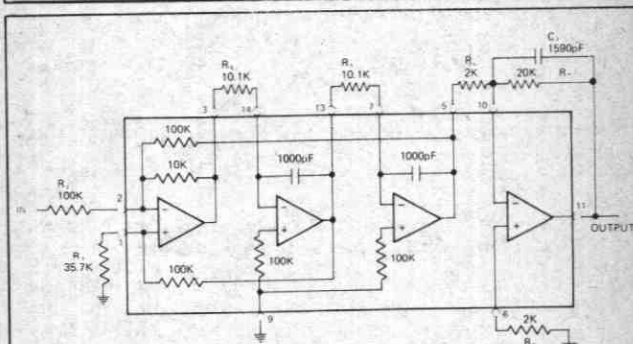

Figure 8.
6. This completes the 3-pole Butterworth filter which is shown in Figure 8.